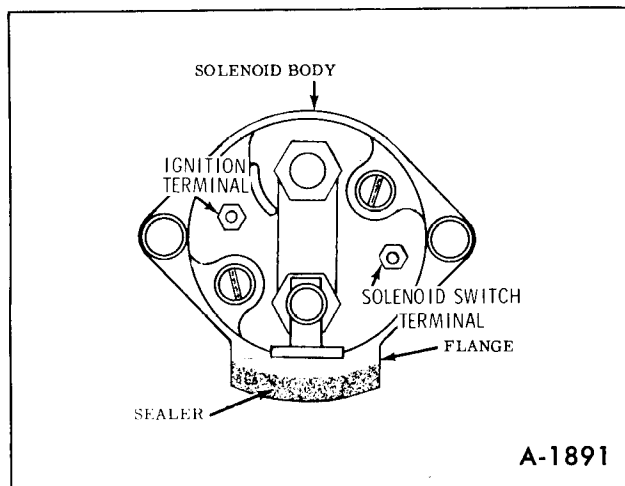

Figure 51—Installing Retainer and Snap Ring
f. Position retainer and thrust collar next to snap ring. Using two pliers, grip retainer and thrust collar and squeeze until snap ring is forced into retainer and is held securely in groove in armature shaft. (figure 51)